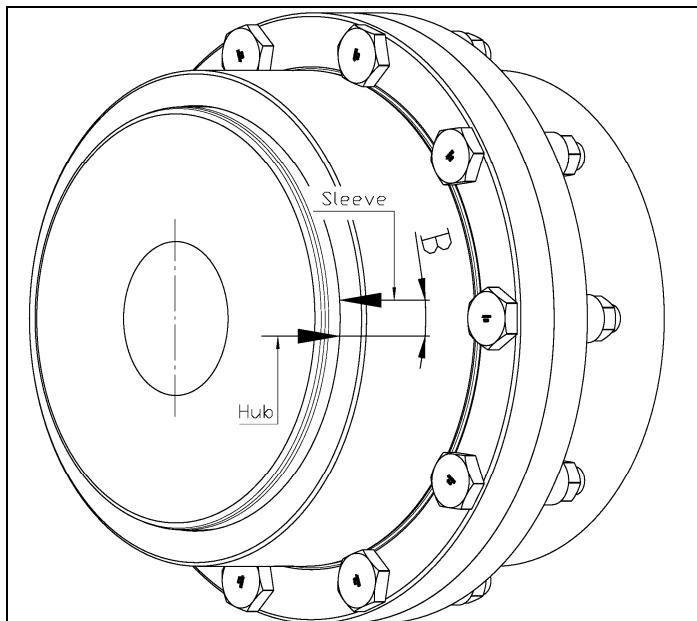
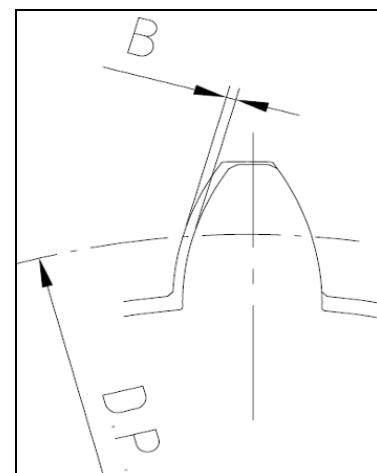

Fig 3: Backlash using marking method
Fig 4: Backlash
- By marking both hub and sleeve. By this method, the Backlash is measured by marking the hub and sleeve at the same diameter as figure 3 shows. As the backlash is a tangential dimension, that value is almost the same as the one shown at figure 4, which is the real backlash. This method can be used in theory for all standard couplings that appear on the standard catalogue, but due to the low number of the maximum values, it is especially complex for the smallest sizes (approximately up to size MT 233 or MT Marine 230). Follow these steps:
- At that position, mark sleeve and hub (see Fig 3).